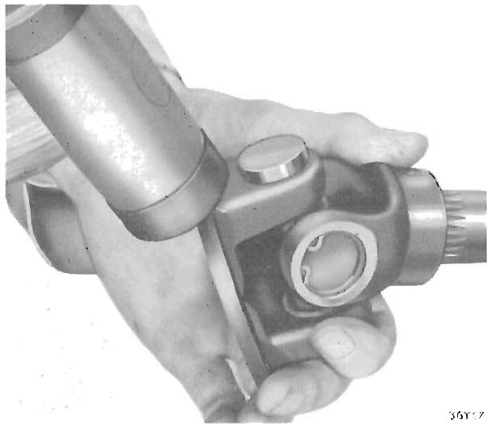
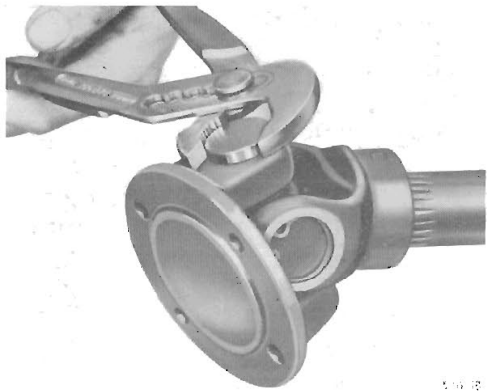

Fig. 13
Fig. 14
1. Secure the axle shaft in a vice and remove the circlips (7) retaining the roller cups (6).
2. Support the flange yoke and tap it with a hide-faced mallet (Fig. 13) to partially eject the cup from the yoke, when it may be completely withdrawn by the use of grips (Fig. 14). Repeat the operation with the opposite cup.